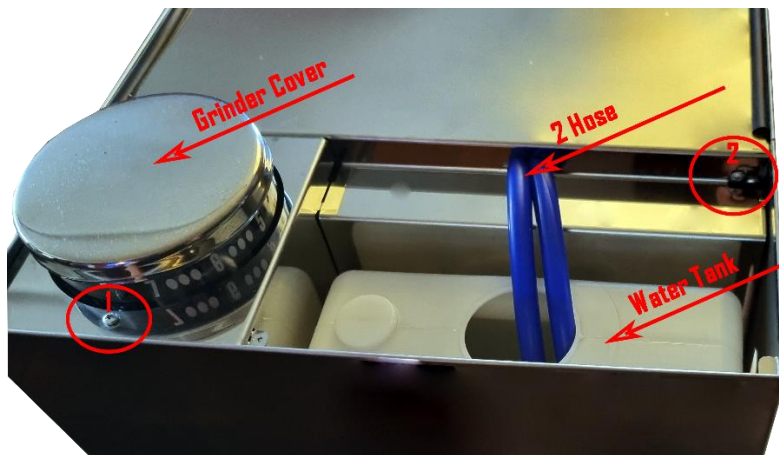

Fig. 1.1
- Unscrew the 2 screws (fig. 1.1)